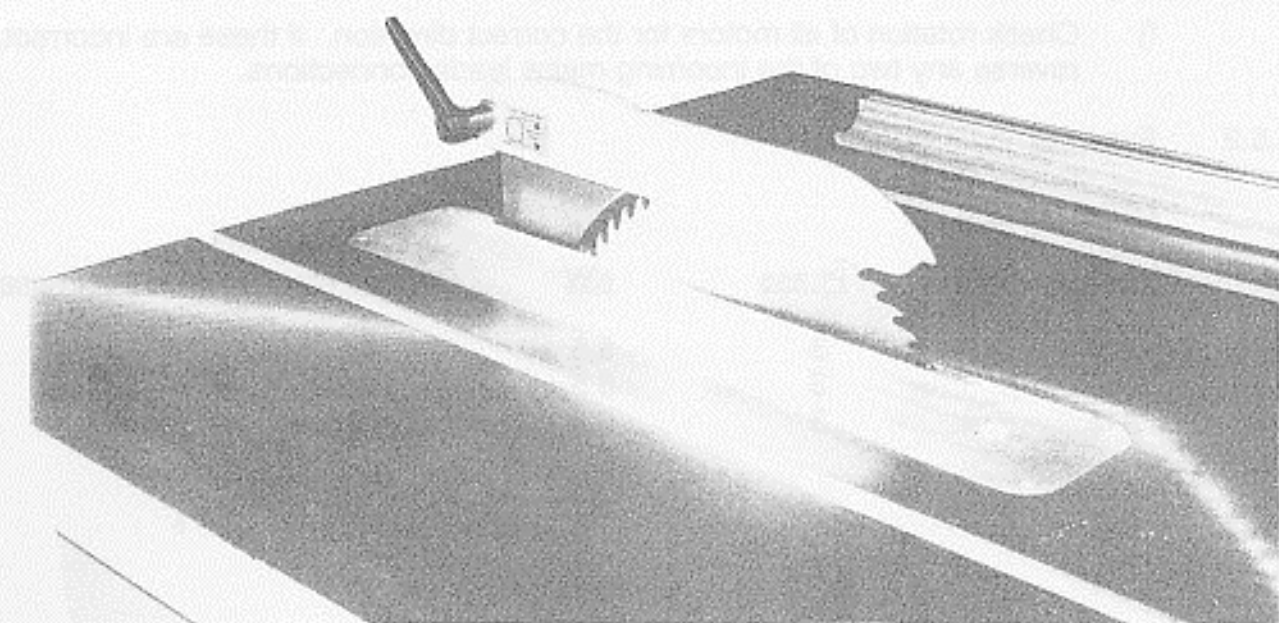

FIG. 9
- e) Fit sawguard as shown in FIG.9.